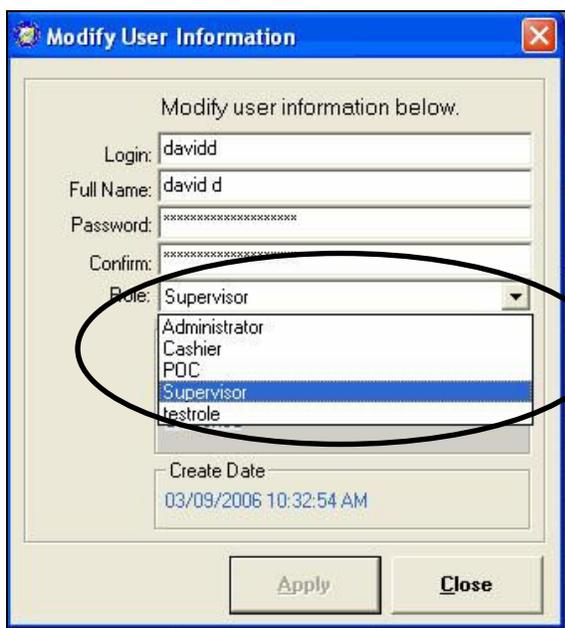

Figure 3.27
2. Change the user's role by clicking the down arrow to the right of the 'Role' field, then clicking on the new role as displayed in Figure 3.27.